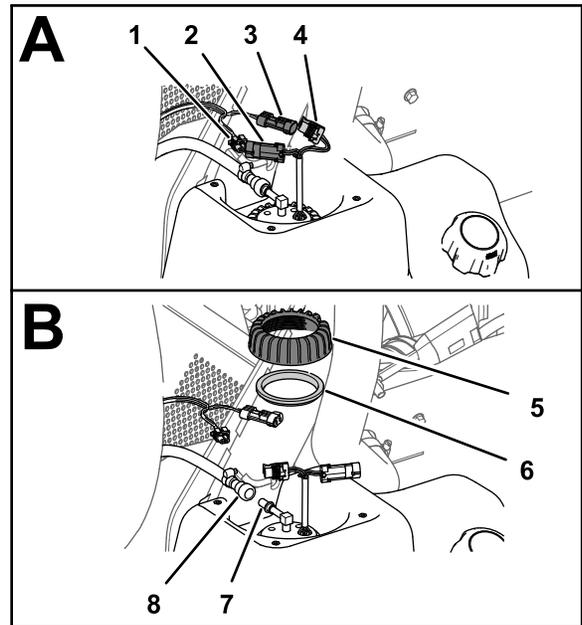

Figure 83
connector of the fuel pump/sending unit (Figure 83).
2. Slide the locking sleeve of the fuel-hose coupling away from the fitting of the fuel pump/sending unit and remove the coupling and hose from the fitting (Figure 83).
3. Rotate the nut for the fuel pump/sending unit counterclockwise and remove the nut and seal (Figure 83)